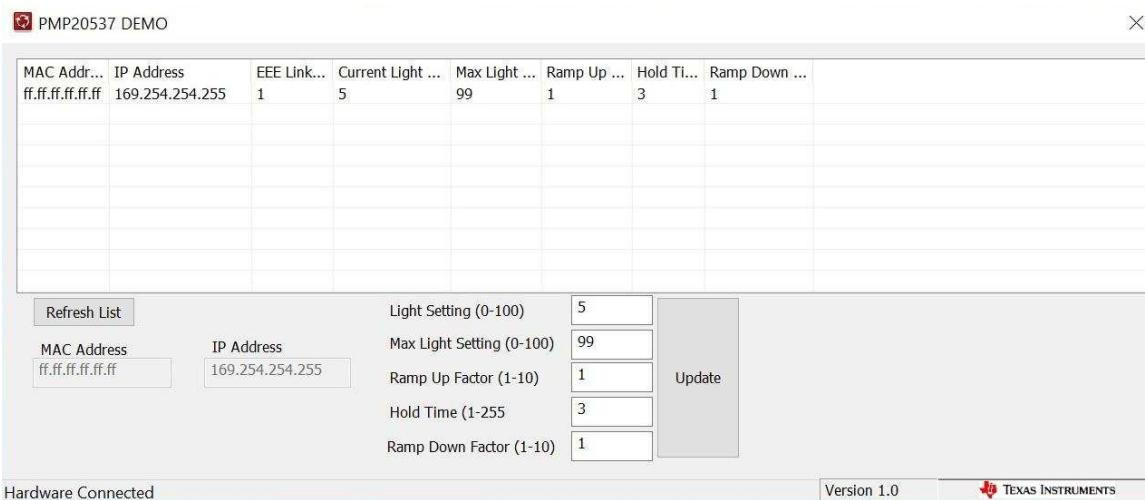

図 24. PMP20537DEMO Software
After connecting the test setup to the PC and powering on the light, start *PMP20537 Demo*. The window in 図 24 appears.
4. Click *Refresh* to see the settings reflected on 図 24.